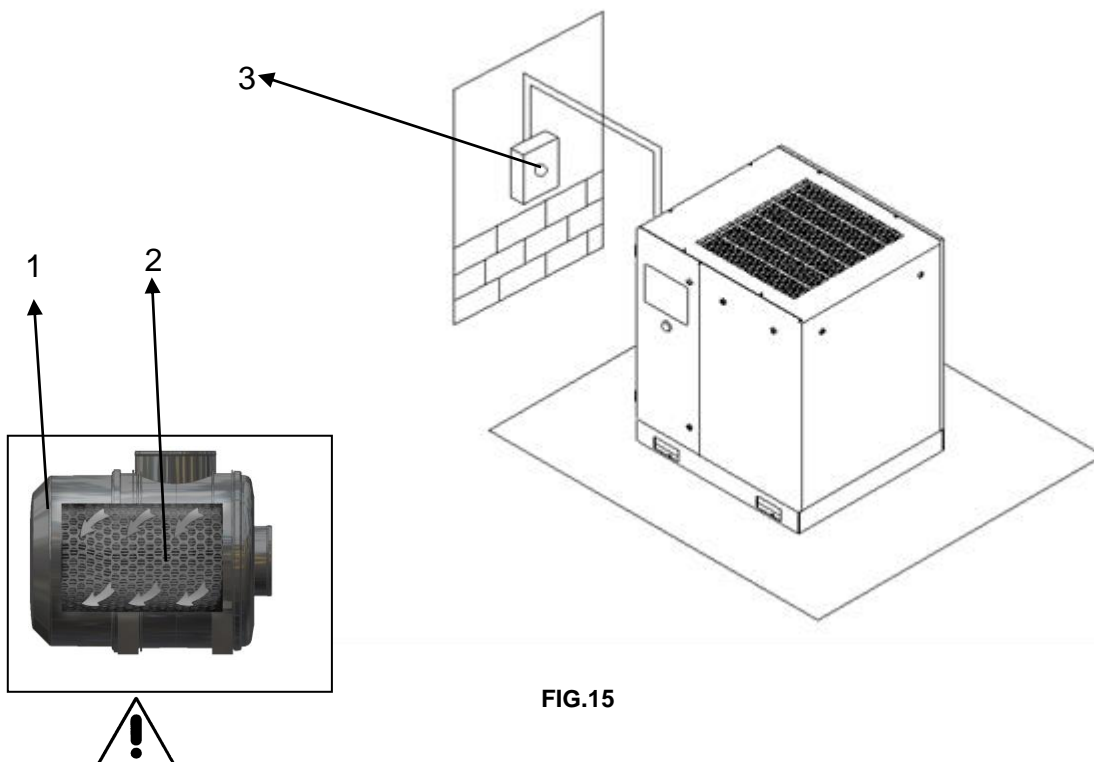

FIG.15
- Remove the cover Ref. 1 FIG. 15.
- Remove the filter Ref. 2 FIG. 15.
- Remove the cover Ref. 2 Fig. 15
- Remove the air filter Ref. 1 Fig. 15